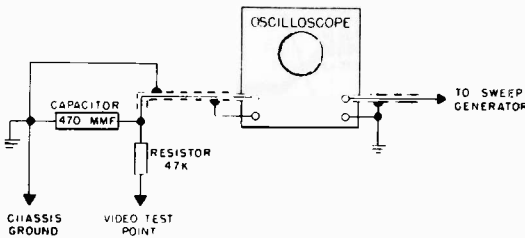

Fig. 7 Oscilloscope Connections
5. Remove the V.T.V.M. and connect the vertical input of the oscilloscope to point "B". See Fig. 17 and 13, using the isolation network as shown in Fig. 7.